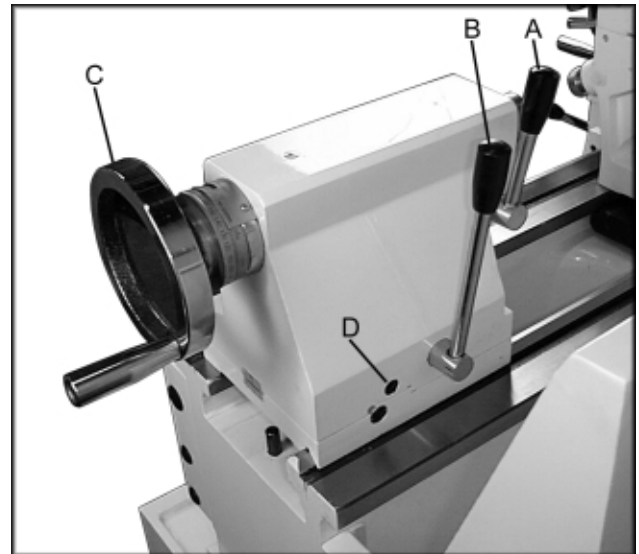

Fig. 15
16. **Tailstock Quill Clamping Lever (A, Fig. 15)** - located on the tailstock. Lift up to lock the spindle. Push down to unlock.
17. **Tailstock Clamping Lever (B, Fig. 15)** - located on the tailstock. Lift up lever to lock. Push down lever to unlock.
18. **Tailstock Quill Traverse Handwheel (C, Fig. 15)** - located on the tailstock. Rotate clockwise to advance the quill. Rotate counter-clockwise to retract the quill.
19. **Tailstock Off-Set Adjustment (D, Fig. 15)** - two hex socket cap screws located on the tailstock base are used to off-set the tailstock for cutting tapers. Loosening one screw while tightening the other off sets the tailstock.